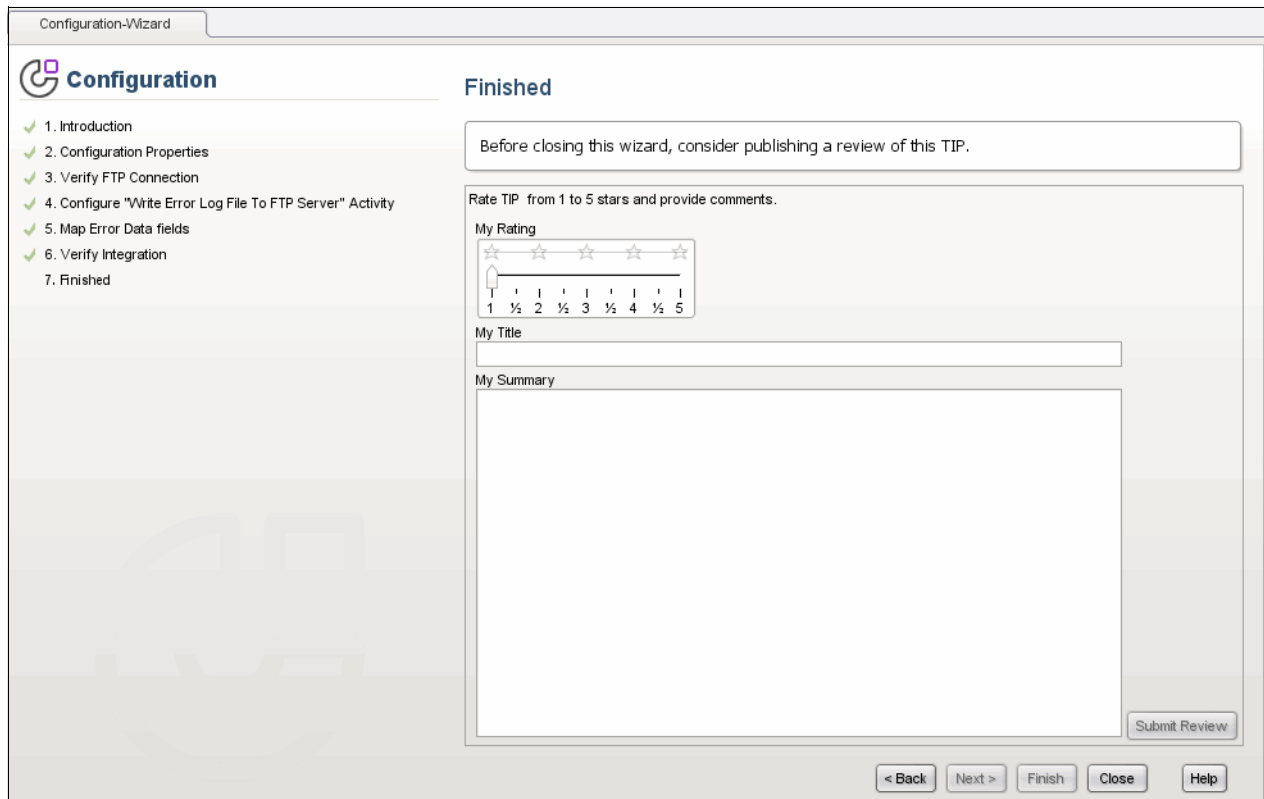

Figure 7-34 Rating and Review in TIP Configuration Wizard
2. Complete the wizard steps, and then click **Finish**. The rating and review page displays, as shown in Figure 7-34 on page 319.
3. In the rating and review page shown in Figure 7-34: